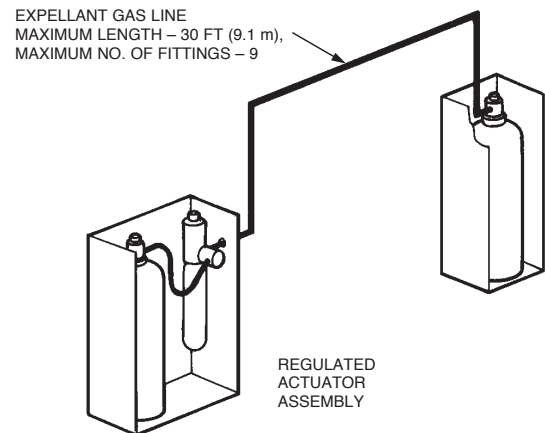

FIGURE 5-19
- The maximum length of the expellant gas line from the regulated actuator to the tank-bracket assembly must not exceed 30 ft (9.1 m). See Figure 5-19.